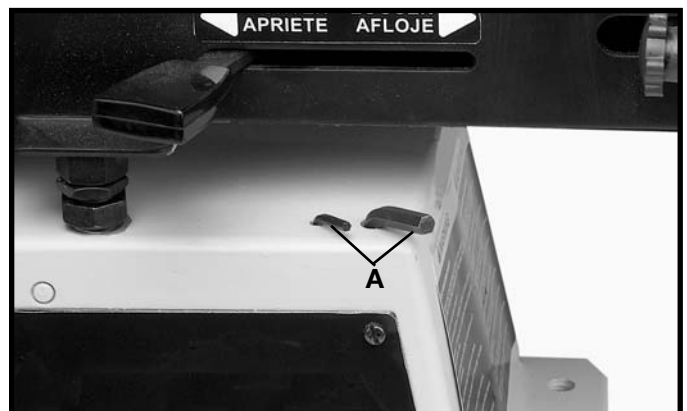

Fig. 39
Two holes are provided in the base casting and are used for storing the two wrenches (A) Fig. 39, supplied with the sander.